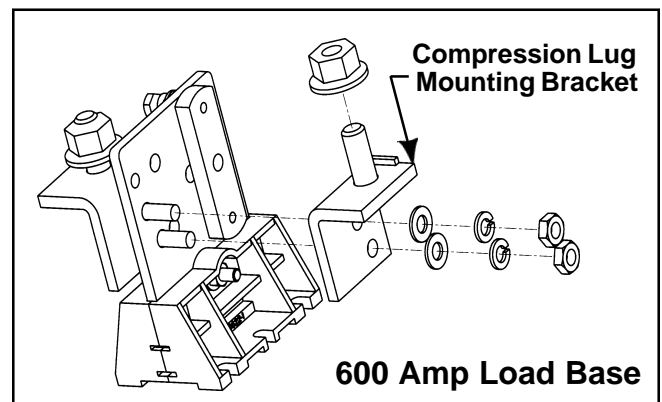

Fig. 3
6. Using the hardware provided in the kit in addition to the hardware removed in Step 5, attach the compression lugs mounting brackets to the line and load bases (if fused). See Fig. 3 (600 Amp Load base shown). Torque hardware to 65 lb-ins.
7. Install compression lugs (not included in kit) and attach to mounting brackets. Torque to 60 in-lbs. See Fig. 3.